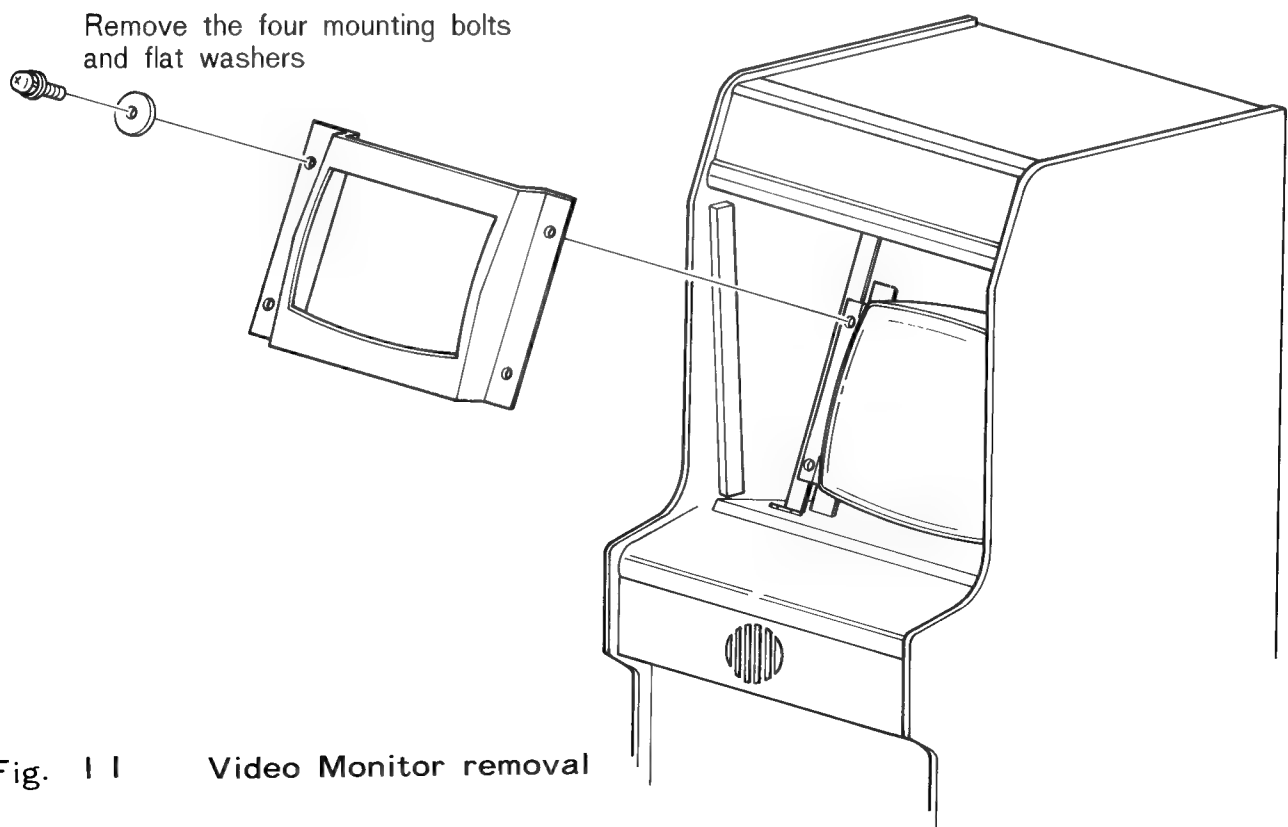

Fig. 11 Video Monitor removal
- (d) Standing at the front opening of the game, remove the four mounting bolts and flat washers. See Fig. 11.